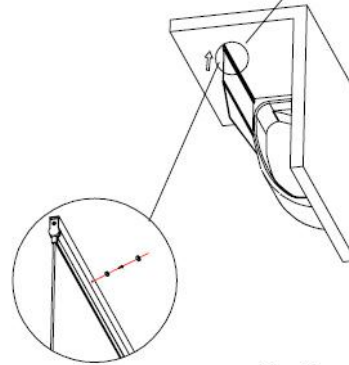

Fig.3
2. (Fig.3) You must slide the bath screen over the now installed wall channel. Once you have correctly compensated and positioned the bath screen. You must drill a hole through the aluminum profile on the glass into the aluminum wall channel. Apply screws for stability and use covers to cover the head.